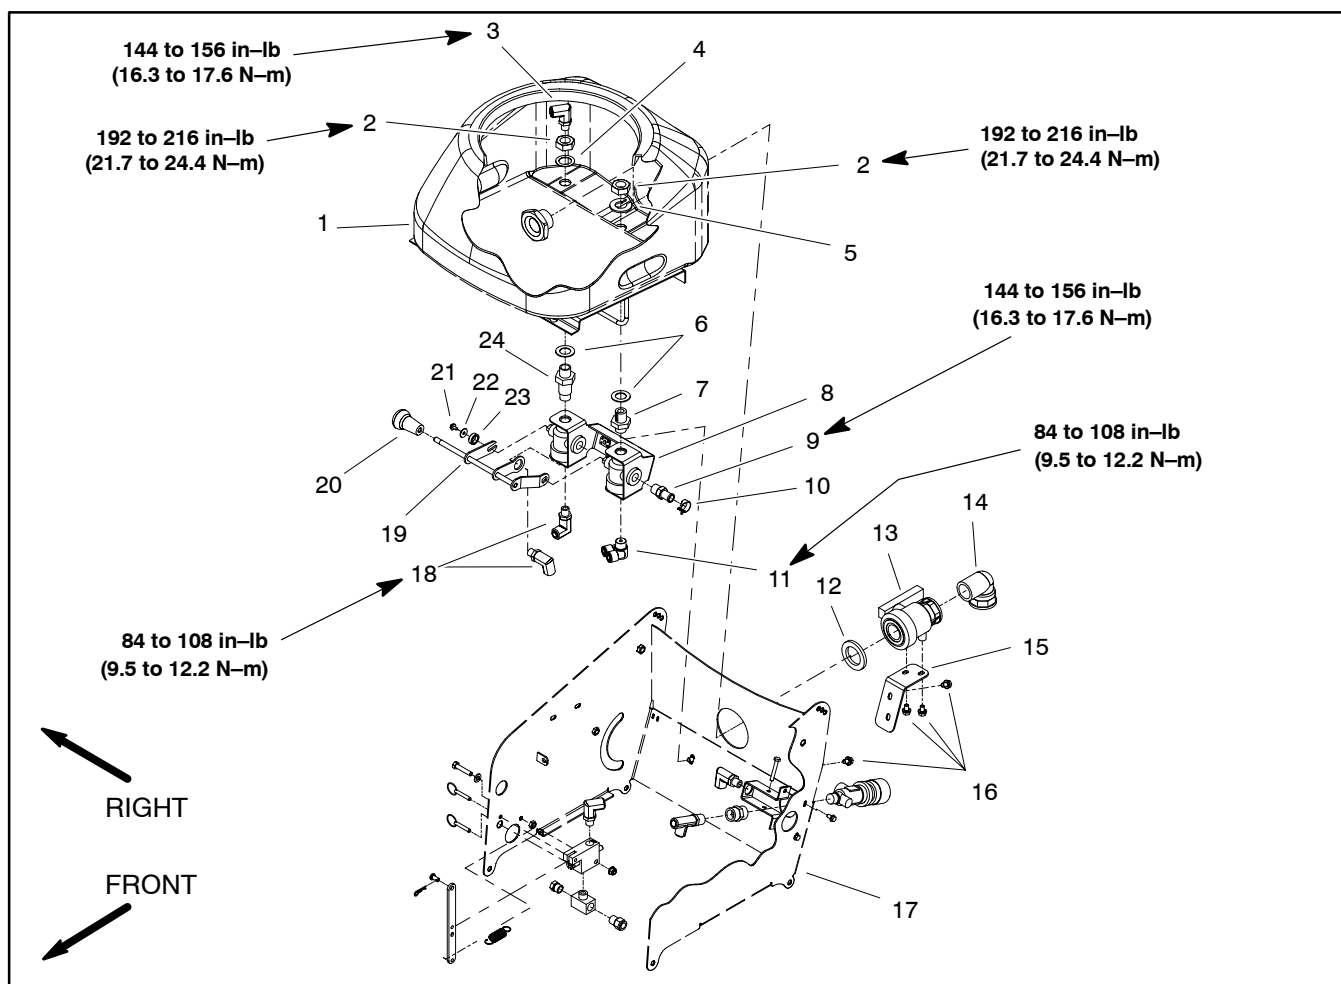

Figure 25
Removal (Fig. 25)
Installation (Fig. 25)
C. Torque remaining fittings to value identified in Fig. 25.
4. Place new rubber washers (item 6) on ball valve ports. Position ball valve assembly to machine.
5. Install two (2) flange screws (item 16) that secure ball valve assembly to tank support but do not fully tighten.
6. Install washers (items 4 and 5), jam nuts (item 2) and elbow fitting (item 3) that secure ball valve fittings to paint tank. Tighten jam nuts. Torque elbow fitting from 144 to 156 in-lb (16.3 to 17.6 N-m).
7. Tighten two (2) flange screws (item 16).